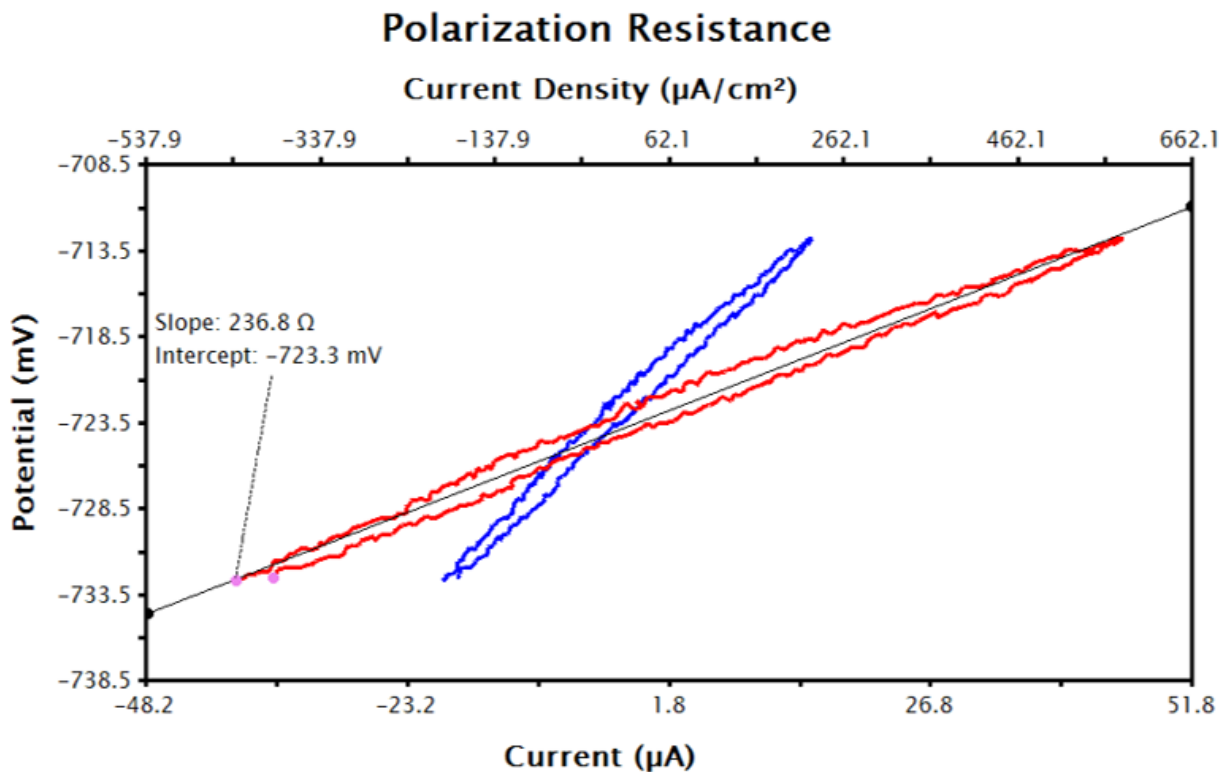

Figure 8. Raw (Red) and Current Density (Blue) LPR Data in AfterMath
The axes of a LPR voltage-current plot can be manipulated in AfterMath to a LPR voltage vs. current-density plot (see: Figure 8). For the example provided in Figure 8, the current data were normalized to a 0.20 cm^2 electrode area and the data was appended to a secondary x-axis (as opposed to replacing the existing x-axis). To manually manipulate the axis of a data plot such as adjusting the LPR voltage-current plot to a LPR voltage vs. current-density plot:
- The units on the plot should now be (mA/cm^2). Note that "micro" was selected for Figure 8 and the resulting units are ($\mu A/cm^2$).